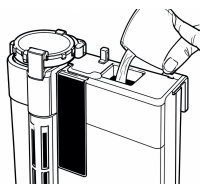

Fig. 6 - Fill with water
- 5.** Turn the filling valve so its arrow points to the open padlock. Pull it upwards and fill through the filling port until the canister is full (Fig. 6). Turn the valve so its arrow points to the closed padlock.